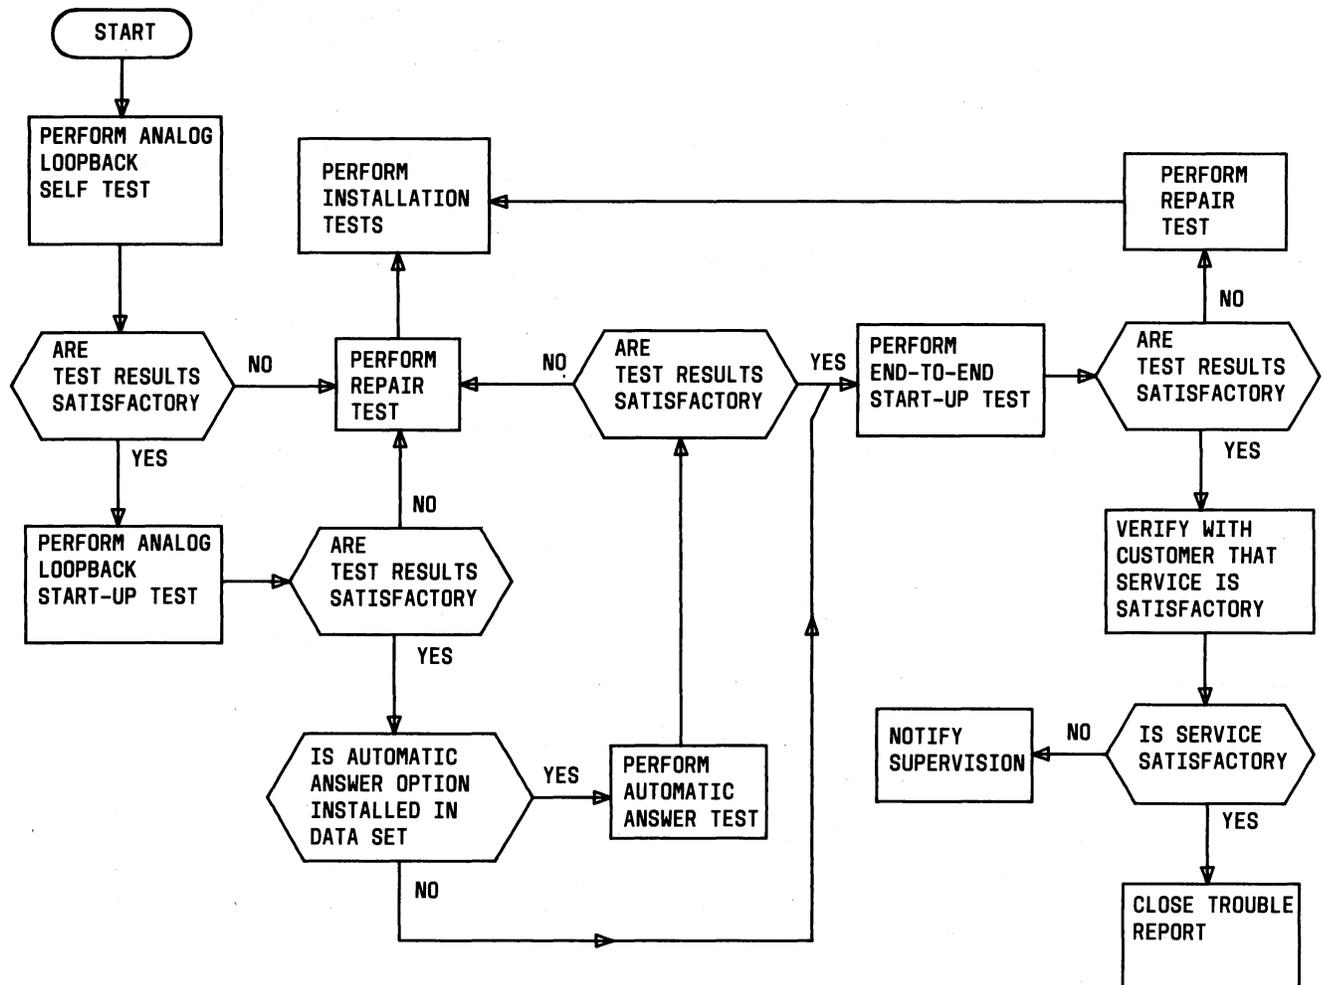

Fig. 4—Maintenance Test Sequence
**3.05** The sequence in which tests are to be performed by the telco employee at the data station is shown in Fig. 4. If the trouble is isolated to the data set, the repair test procedures in paragraphs 4.29 and 4.30 are to be performed to isolate the trouble to a circuit pack in the data set.